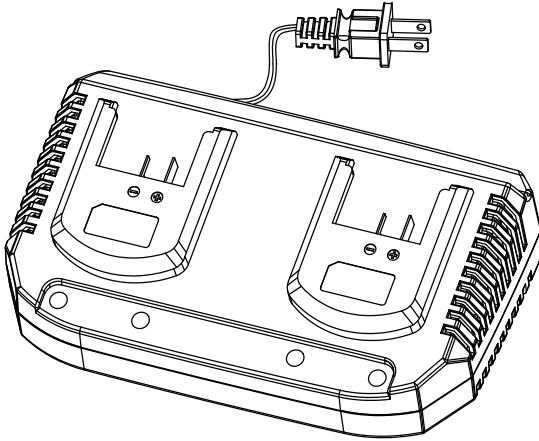

Fig. 7
2. Check that the voltage of the electrical outlet is the same as that marked on the rating plate of the battery charger. Then, insert the charger's plug into the wall outlet. When you plug in the charger, the green light at the right side will illuminate and remain green. (Fig.7)